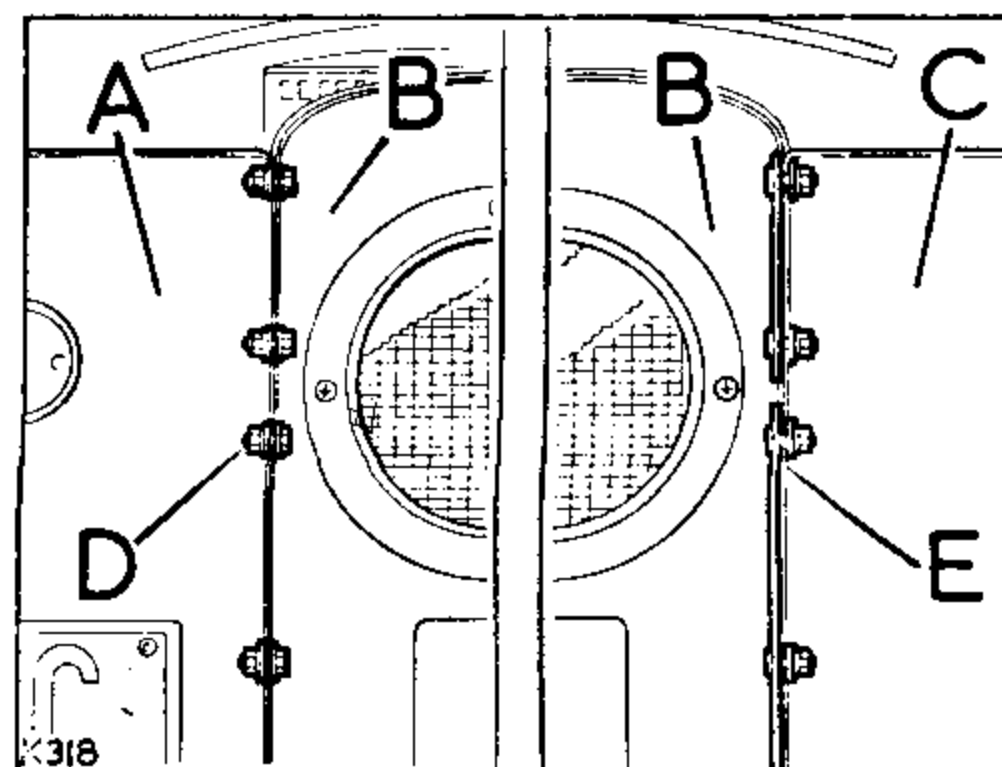

Fig. A1-11. Radiator grille panel fixings
1. Position the radiator and grille panel assembly on to the vehicle. Fit the fan blades to the fan pulley before engaging the grille panel fixings. See Figs. A1-11 and A1-12 for fixings details.